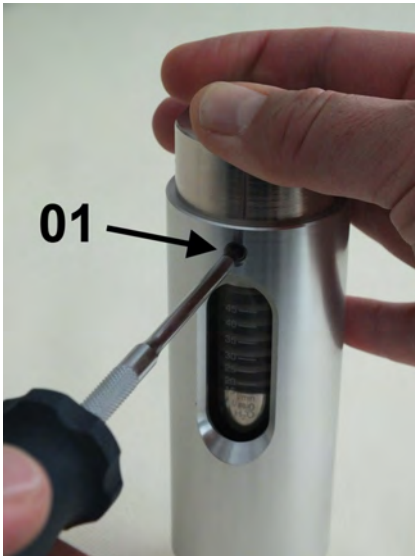

Fig. 52: Tighten hex socket screws
- 14.** ➤ Tighten the 3 hex head screws (Fig. 52/1), observing the proper torque (↪ Chapter 11.1 “Tightening torque” on page 83).